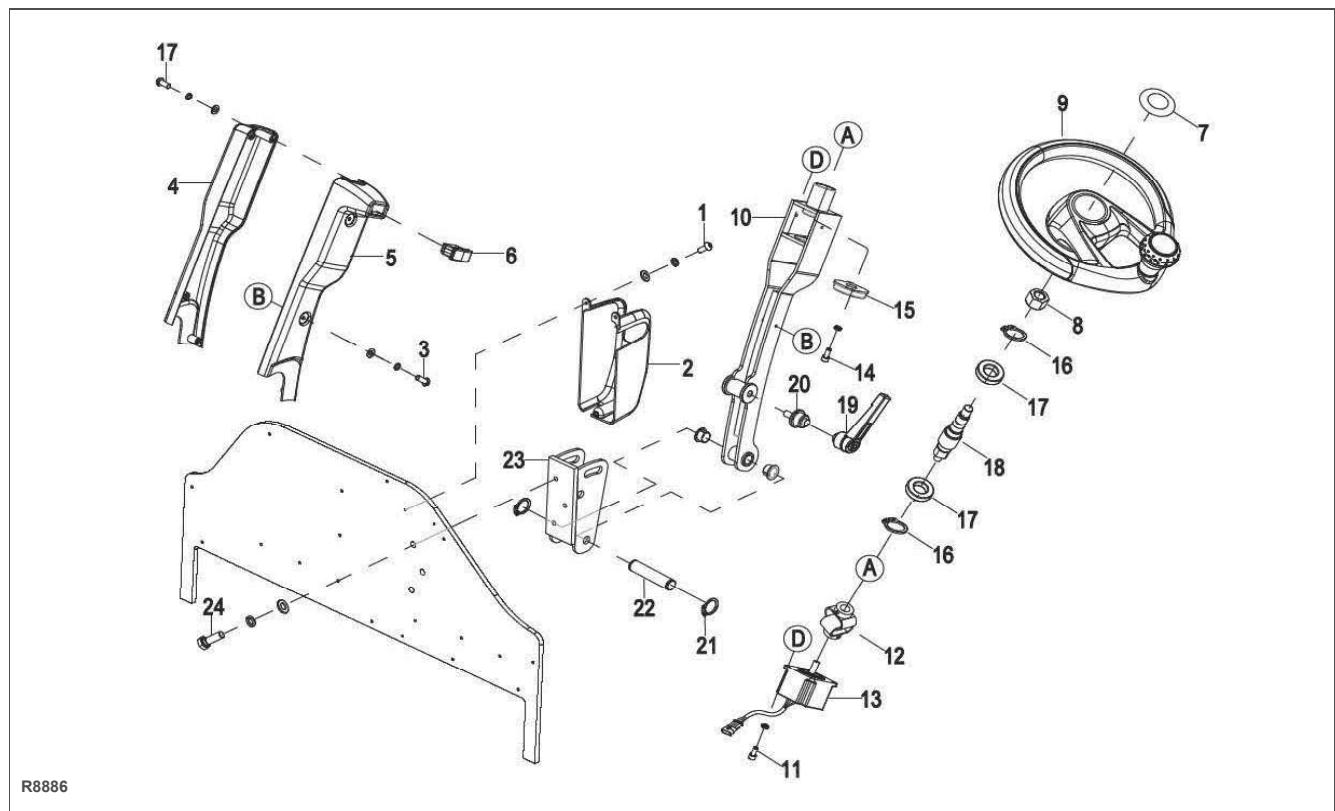

Figure 5-1 Steering System
2. Remove the three screws (1, Figure 5-1) and remove the steering column lower cover (2) from the front plate.
3. Remove the six screws (3) and remove the steering column right cover (4) and left cover (5).
4. Disconnect the connection between the turn signal switch and main wiring harness, then remove the turn signal switch (6) from the steering column left cover (5).
5. Pry up the steering wheel cap (7) and loosen the nut (8) to remove the steering wheel (9) from the steering column (10).
6. Remove the four screws (11) and loosen the lock screw on the bottom of the gimbal (12), then remove the stepper motor (13) from the steering column (10).
7. Loosen the lock screw on the top of the gimbal (12) to remove the gimbal (12).
8. Unscrew the two screws (14) and remove the damper (15) from the steering column (10).
9. Remove the two snap rings (16) and knock out the two bearings (17) and the steering shaft (18).
10. Unscrew the adjusting handle (19) to remove the nut (20).
11. Remove the two snap rings (21) and knock out the shaft (22) from the side to separate the steering column (10) from the bracket (23).
12. Unscrew the three bolt (24) with a wrench to remove the bracket (23) from the front plate.